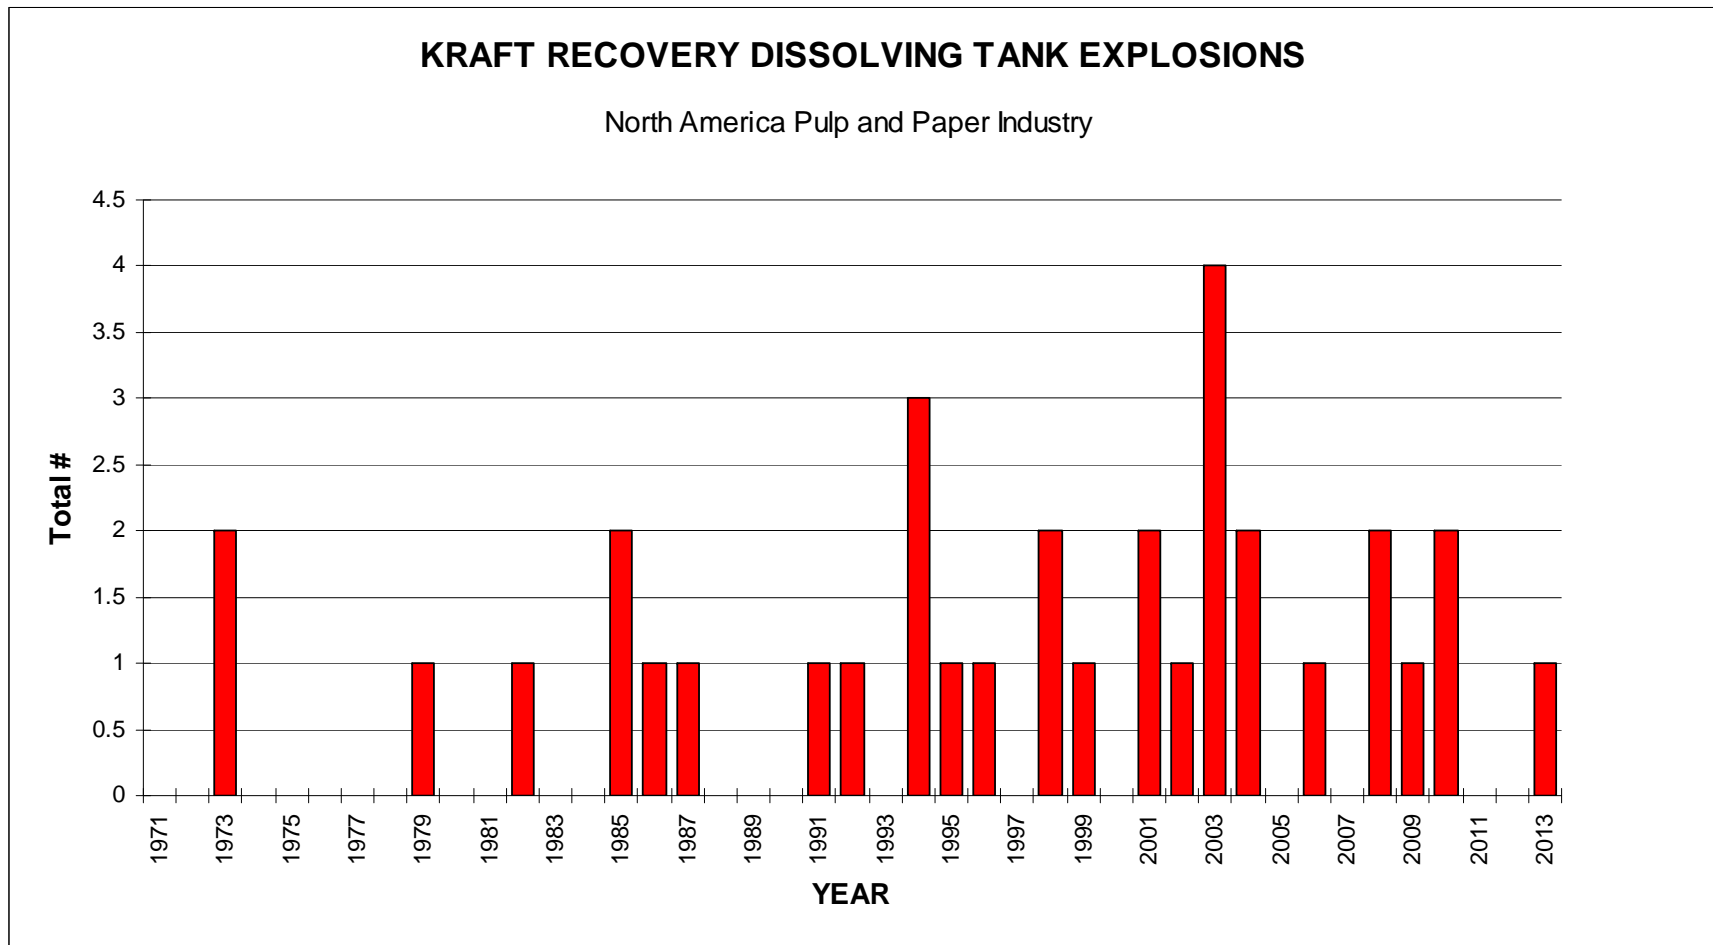
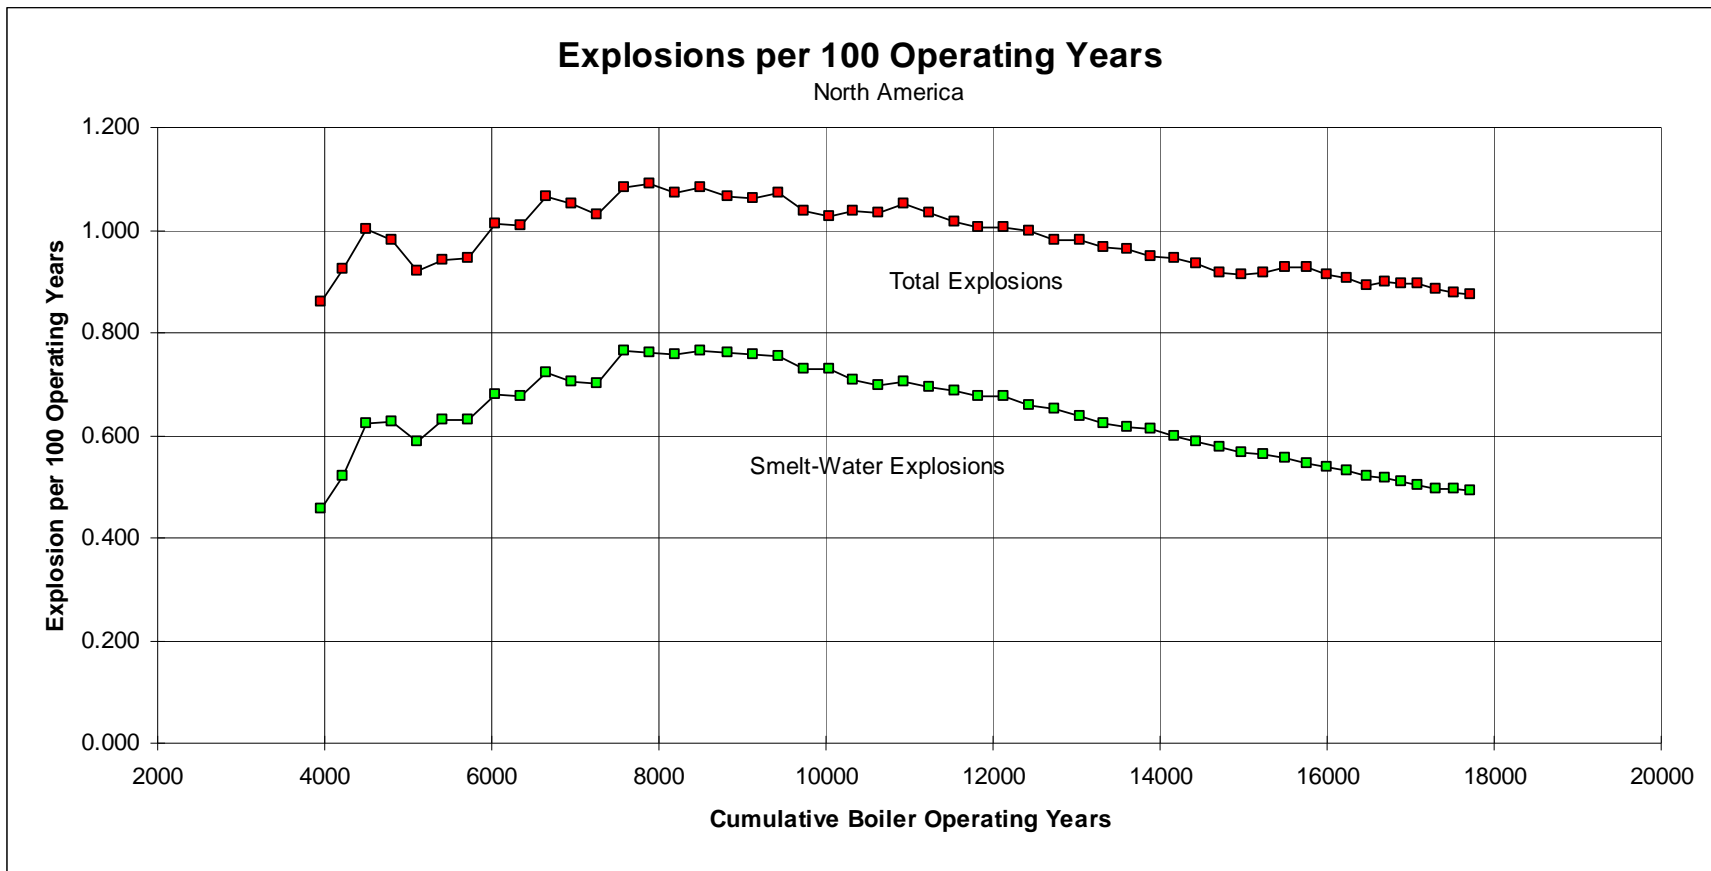

Figure 5
Figure 6
Figure 5 shows the history of dissolving tank explosions. We broke the string of no dissolving tank explosions for the last couple of years. Following the recommendations from Section 10 of the Safe Firing of Black Liquor document would prevent many of the reported dissolving tank incidents that have occurred in the past.
Figure 6 is a plot of explosion history per 100-boiler operating years. This is a statistical summary of the experience across the industry. The smelt water explosion experience is continuing to trend down over time and is down to 0.5 explosions per 100 boiler operating years, and the total explosions, which includes all boiler explosions and dissolving tank explosions, remained just under 0.9 explosions per 100 boiler years since a dissolving tank explosion was reported in the spring. The factor is calculated by a summation of all reported explosions since 1948 divided by a summation of the number of boilers reported in service each year during the same period. We all need to continue to keep that trending down.
We decided to go ahead and make changes to Figure 6 (page 52). Even with the disclaimer, there are numerous questions from member companies attempting to model from this figure. Therefore, the proposed changes to Figure 6 will include:
- Remove drains shown as directly associated with vent lines. This occurs in both Figure 5 and Figure 6
In the afternoon (open) session, there were seven members, one alternate and ten guests present. We reviewed the proposed changes to Figure 6 and Table 5 with the attendees. There were no questions regarding these two document edits, but the use of the continuous igniter was, again, raised.